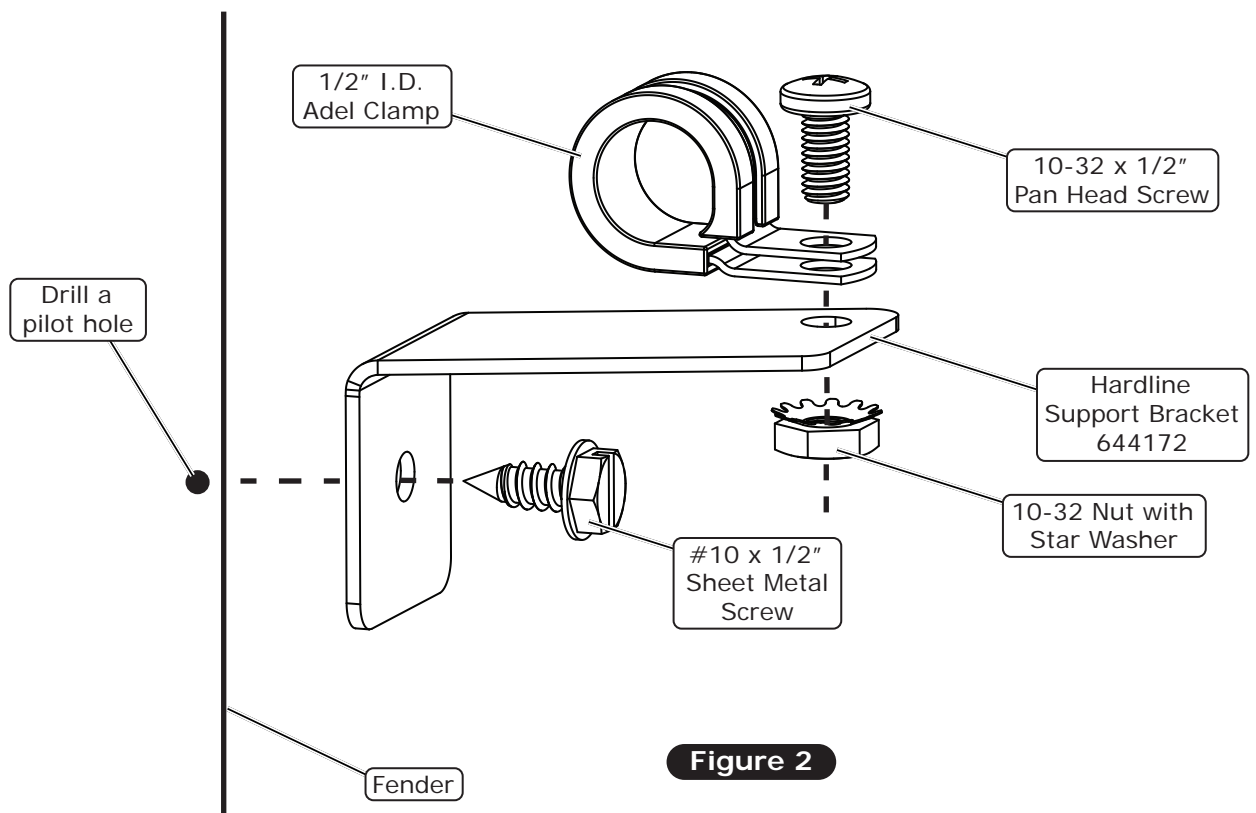

Figure 2
11. Secure the #8 hardline to the inner fender well using the bracket and Adel clamp with provided hardware (See Figure 2 and Photo 11, below).